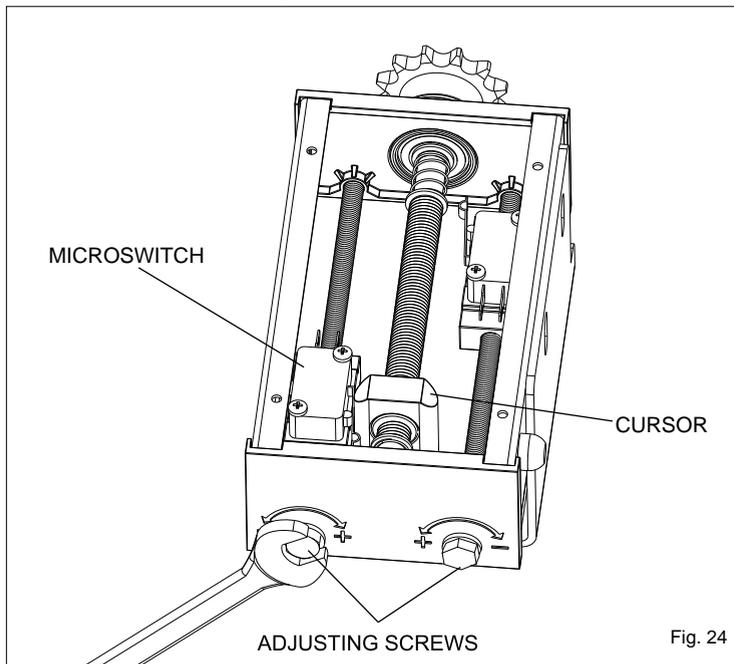

Fig. 24
- act on the adjusting screw so that the microswitch can activate the contact with the cursor (Fig. 24)